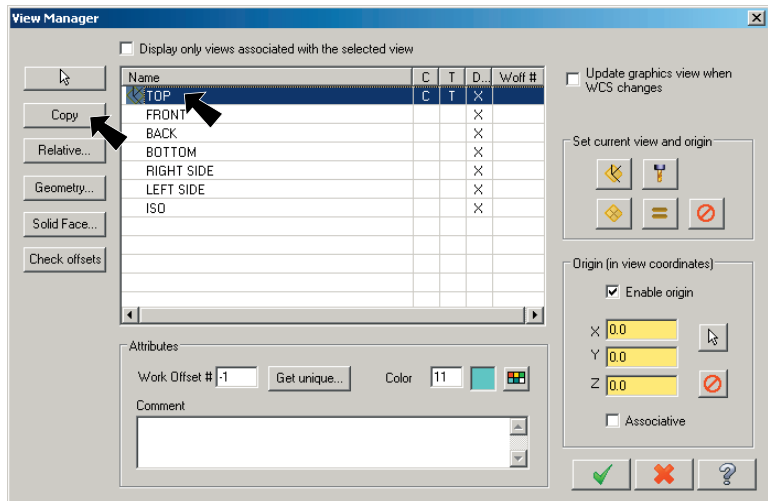

Fig. 55
Step 3. With the Top View selected, click **Copy** button in the View Manager dialog, **Fig. 55**.